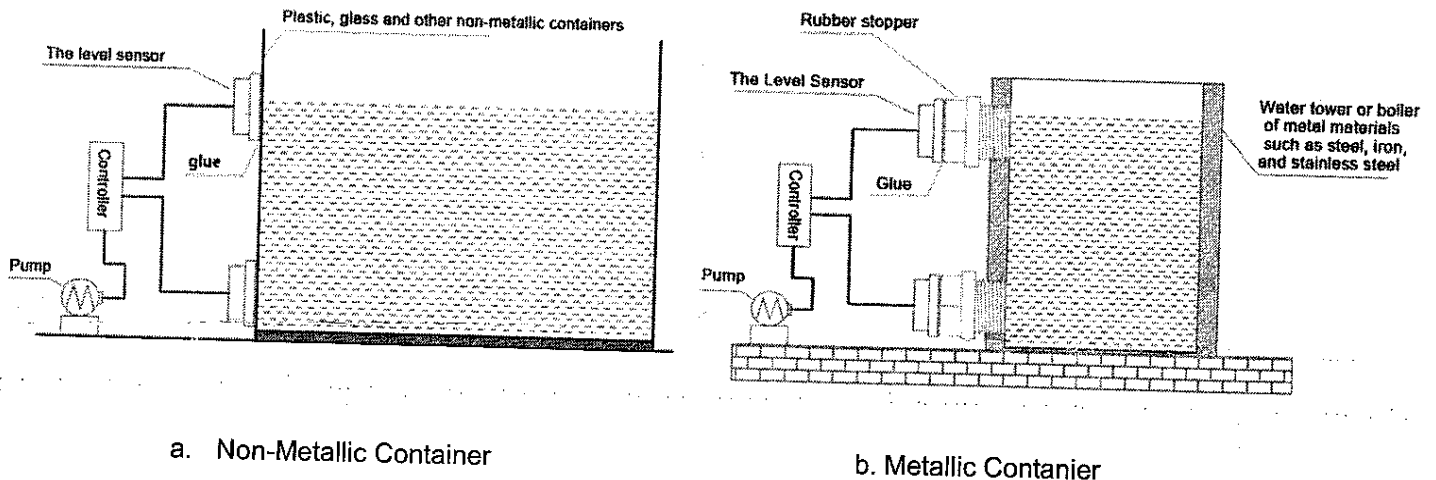

Figure.1 Installation Method
- (1). If the wall of the container where the measuring probe is installed is a multi-layer material, the layers should be in close contact with no air bubbles or gas interlayer. The inner and outer surfaces of the container wall should be flat.
- (2). Wall thickness: 0-20mm
- (3). Tank type: spherical tanks, horizontal tanks, vertical tanks, etc.
- (4). The installation of such material containers is shown in Figure 1.a;
- (1). Prepare two rubber plugs and the necessary tools to open the threaded holes;
- (2). Two threaded holes are opened in the high position and the low position respectively, and the aperture is matched with the rubber plug size;
- (3). Put a good rubber plug on the threaded hole and tighten it to check if it leaks water. If necessary, add some glue to seal it;
- (4). Stick the sensor on the rubber plug with glue and fix it with the bracket. After the glue is solidified, remove the bracket. The installation of the metal container is shown in Figure 1.b.